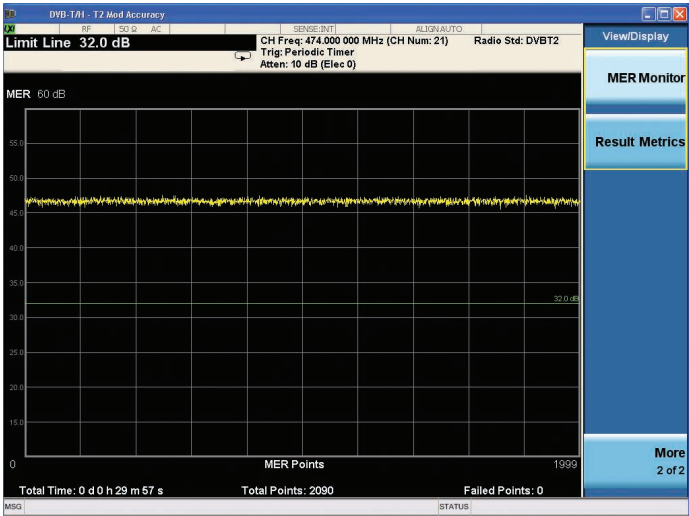

Figure 30. MER monitor view
- **MER monitor view** (Figure 30): Monitor of the MER results over time while detailed information and raw data for the failed MER are recorded
View the MER monitor results (Figure 30)	[View/Display] {More 1 of 2} {MER Monitor}